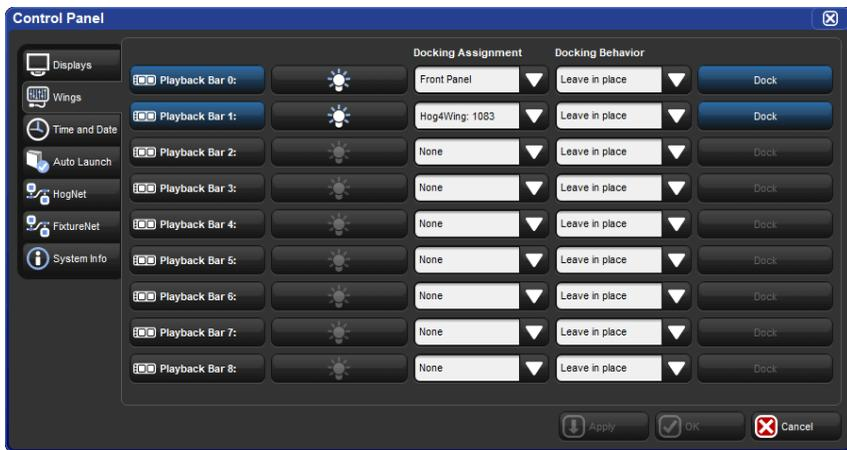

Figure 3.8. Wings pane of the Control Panel with active front panel and wing docking assignments
2. Setup → Control Panel → Wings : open the Wings pane of the Control Panel window (see Figure 3.8, "Wings pane of the Control Panel with active front panel and wing docking assignments").